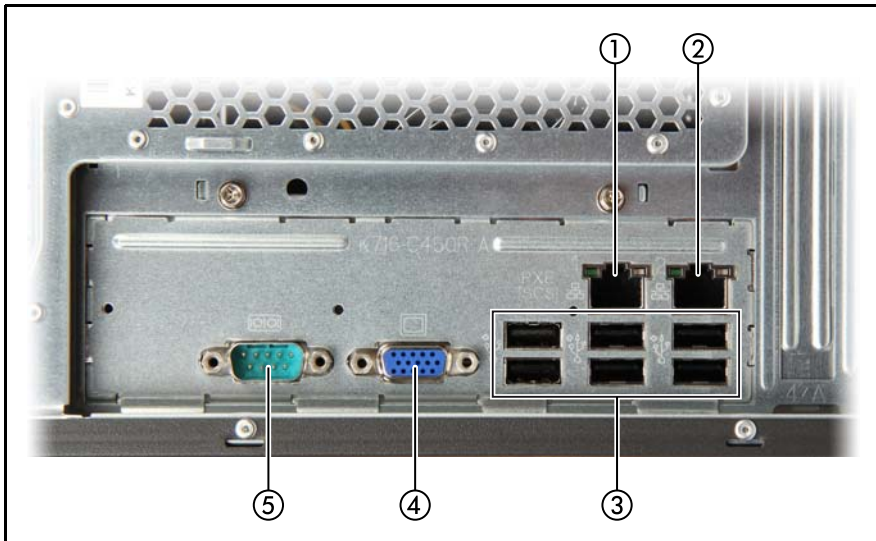

Figure 2: Connector panel on the rear side
- ▶ Connect the monitor to the video connector of the server (see figure 2 on page 46).